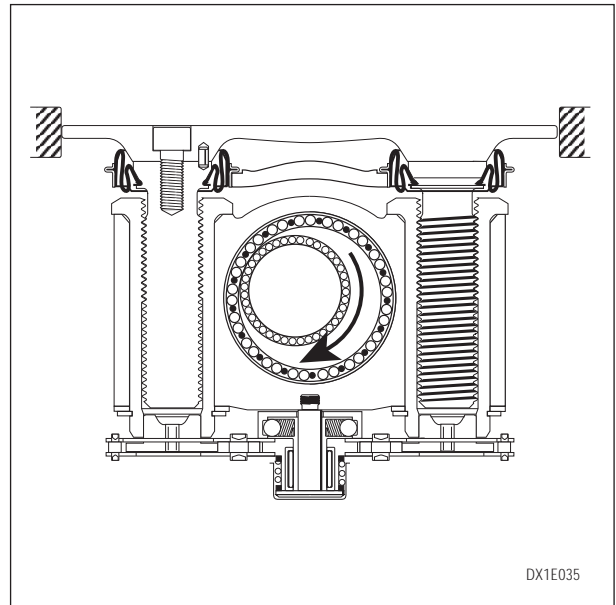

Fig. 2-8 Step 4
- k) The unidirectional bearing free-wheels without transmitting motion to the gear housing, thus avoiding brake adjustment. The relative piston / sleeve adjustment position does not vary. Therefore, clearance compensation of pre-existing rotor and pads remains unchanged. (Fig. 2-8).